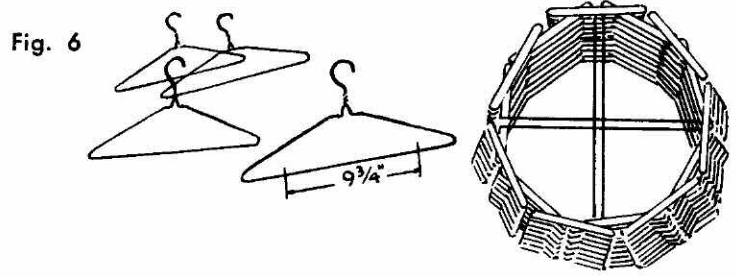

Fig. 6
6. Continue building by adding 7 stick layers for the next 8 layers. At this point insert structure to hold shade to shade support. Snip a 9 3/4" piece out of 4 coat hangers (see illustration Fig. 6). Add 36 more layers.